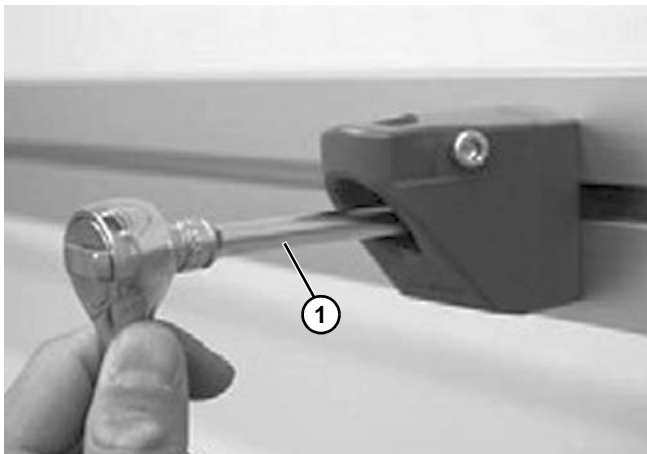

Figure 99
2. Attach the bracket onto conveyor beam and tighten with a socket wrench (Figure 99, item 1).